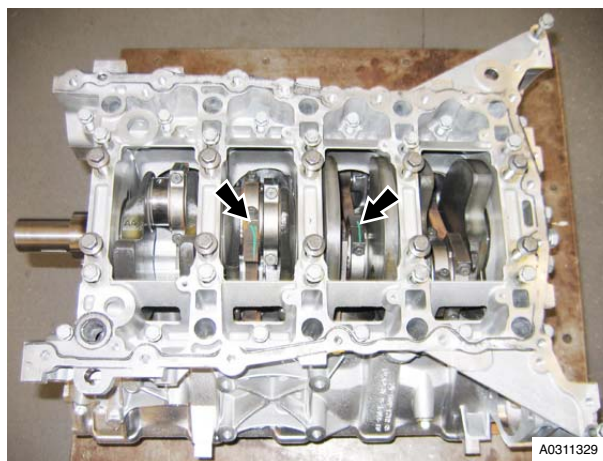

Figure 4
21. Carefully release and remove engine bedplate from cylinder block (see Figure 4).